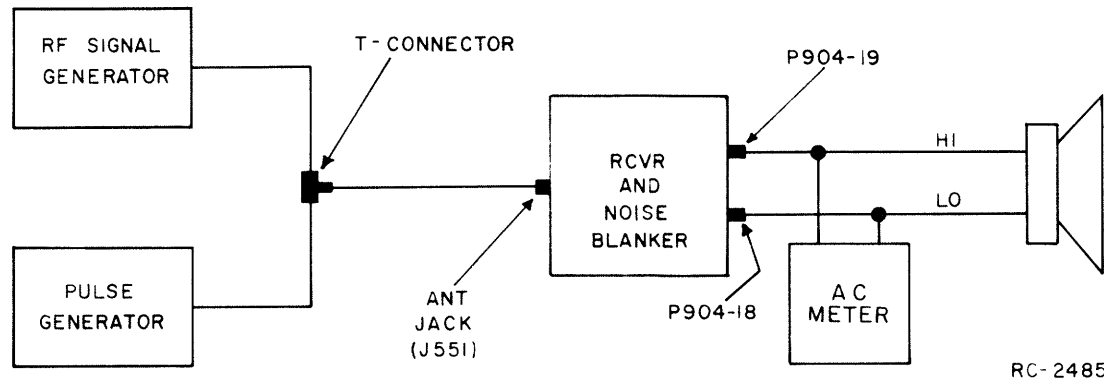

Figure 1 - Equipment Connection Diagram
1. Connect Pulse Generator and RF Signal Generator to receiver antenna jack (J551) through a T-Connector, and connect AC Voltmeter to receive audio output (Speaker LO) P904-18, Speaker P904-19) as shown in Figure 1.